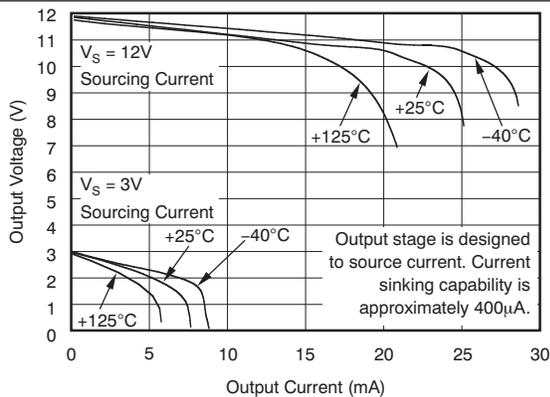

Figure 7. Positive Output Voltage Swing vs Output Current
(1) Total output error includes effects of gain error and V_{OS}.
(2) For details on this region of operation, see the *Accuracy Variations as a Result of V_{SENSE} and Common-Mode Voltage* section.
(3) See Typical Characteristic curve *Output Swing vs Output Current*, Figure 7.
(4) Specified by design.